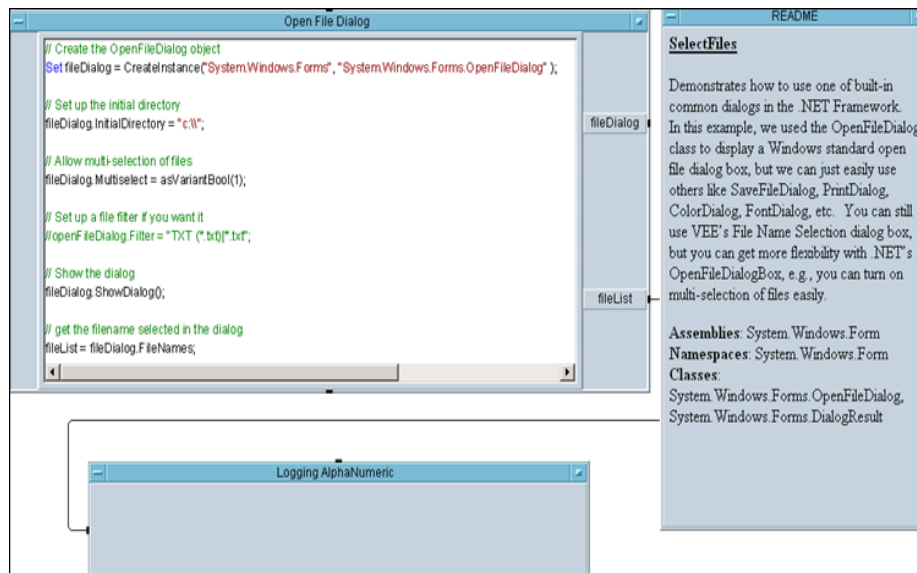
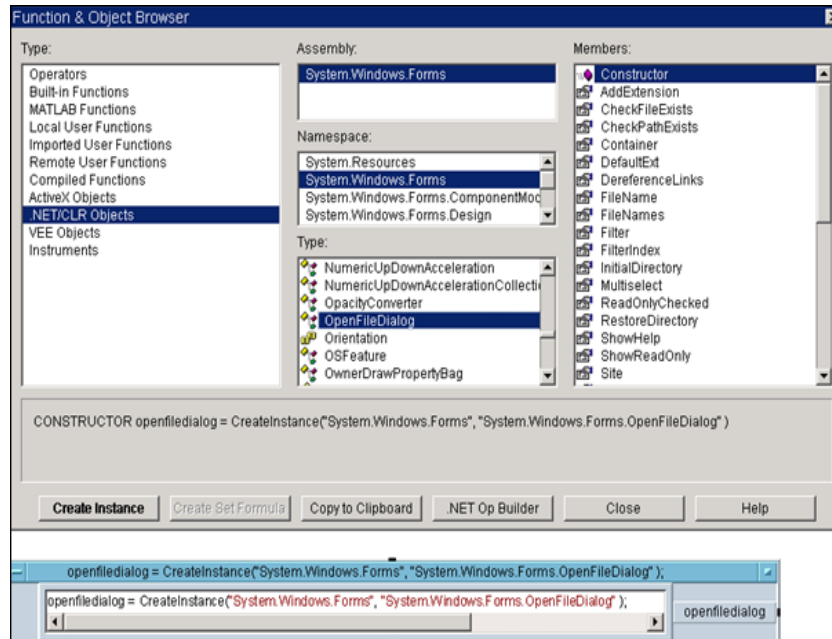
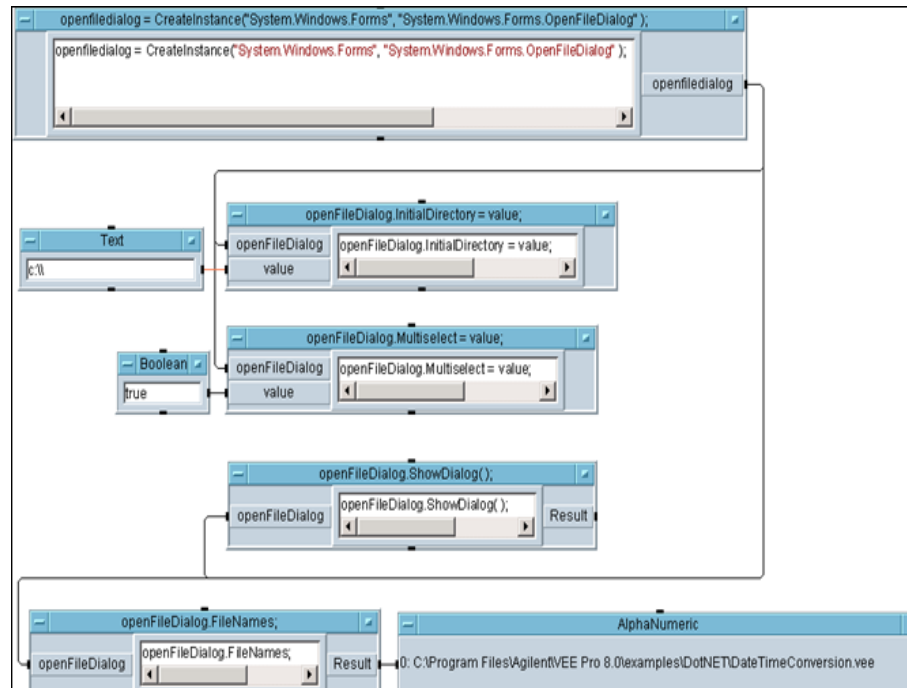

Figure 4-3 DotNET => SelectFiles in one object
Figure 4-4 Generating the "openfiledialog" object with the Function & Object Browser
Figure 4-5 SelectFiles program with separate objects after running
- 1 Go to Help => Open Example => DotNET => SelectFiles. See Figure 4-3. This figure offers the Select Files program included in one object.
- 2 Go to Menu Bar => Device => Function & Object Browser and select the Type, Assembly, Namespace, Type and Members shown in Figure 4-4. Click on Create Instance. The "openfiledialog" shown below is the result.
- 3** Devise the program shown in Figure 4-5 in the same Main area of Figure 4-4; it will perform the same as Figure 4-3; run this program.